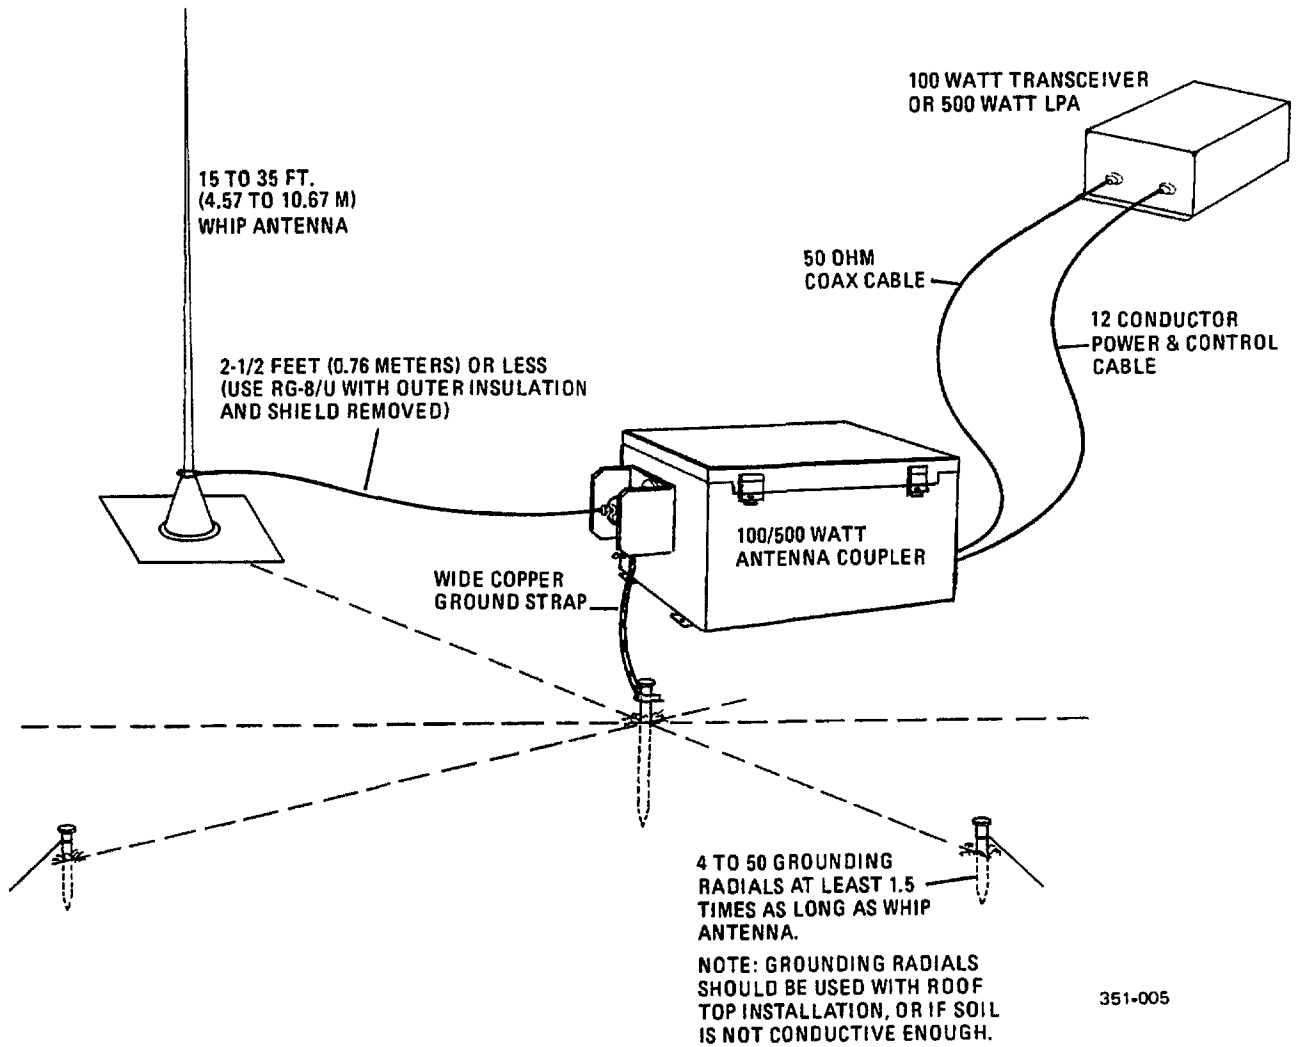

Figure 2-3. Typical 100/500 Watt Antenna Coupler Installation For Whip Antennas
l. Typical 100/500 Watt Antenna Coupler Installation for Whip Antennas. If a whip antenna is used, connect the antenna insulator on the 100/500 Watt Antenna Coupler to the base of the whip with a heavy flexible insulated cable, such as the insulated inner conductor of a length of RG-8/U. This cable should be kept as short as possible; it should not exceed 2.5 feet (0.762m) in length. A typical fixed whip antenna installation is shown in figure 2-3.
b. Refer to figures 2-3 and 2-4, depending upon the type of installation selected. Mark off the four mounting hole centers on the mounting surface. Drill four mounting holes using a standard 3/8 inch (3.375 inch or 0.95 cm) drill bit.